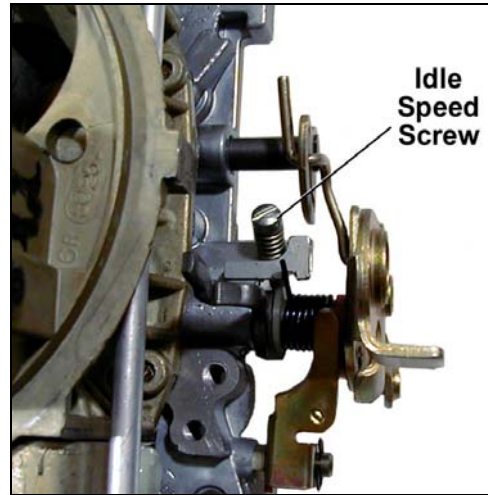

Figure 3
19. With the engine at operating temperature, set the idle speed to the manufacturer's specifications by adjusting the idle speed screw (Fig. 3). Consult the emission control sticker or the manufacturer's service manual for the correct procedure for setting idle speed.